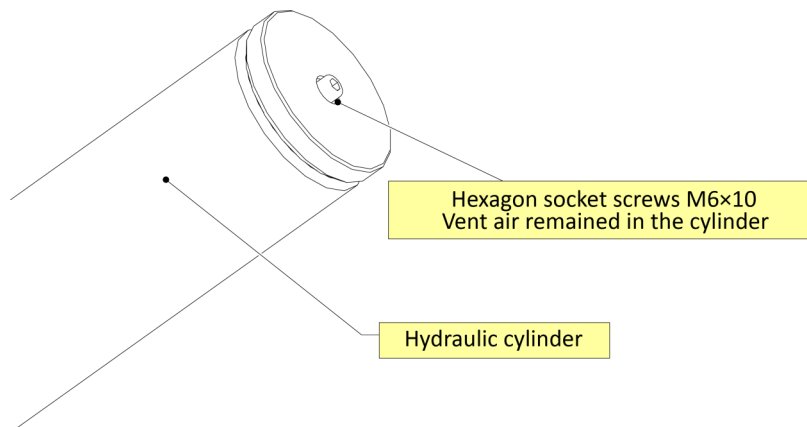

FIG 18
Step14: Trial running. (See Fig 18)